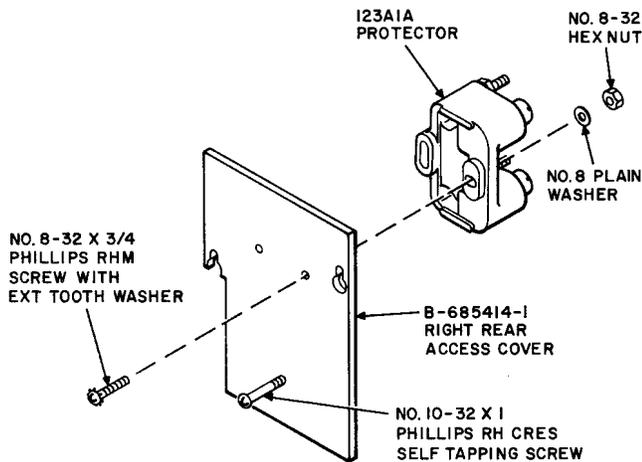

Fig. 21—Assembly of 123A1A Protector on Right Rear Access Cover
4.15 The protector is mounted on the access cover in the top-right rear corner of booth (Fig. 21).